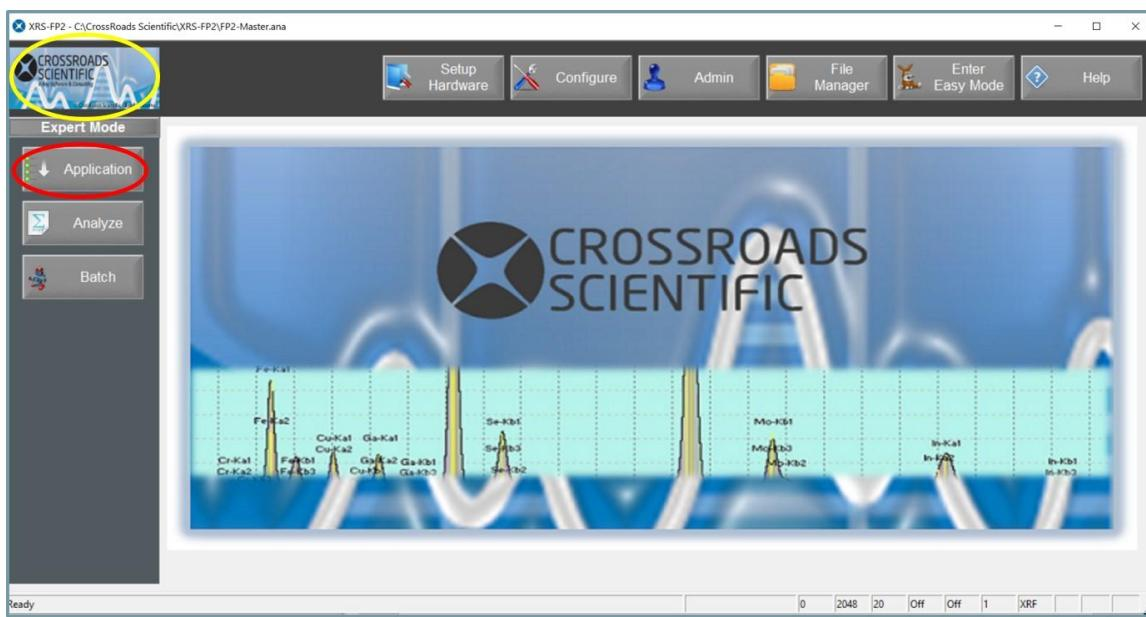

Figure 18. XRS-FP2 Application Setup. From the XRS-FP2 home screen select the application button to setup the application.
1. Click on the **Home** button (Fig. 18, yellow circle), then select the **Application** button (Fig. 18, red circle).